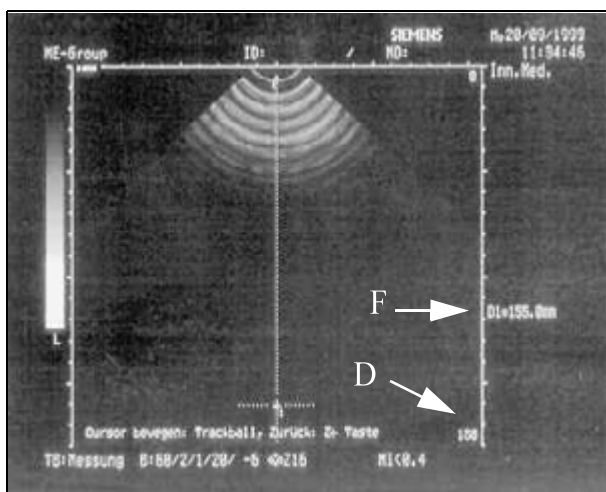

Fig. 80: Target test 2
- Use the track ball to move to the center of the crosshair. A value of D1 according to the table must appear in the display (F/Fig. 80 / p. 76) as a function of the probe. If this is not the case, the adjustment procedure must be repeated for the potentiometer in the ultrasound arm or the ultrasound arm must be replaced.